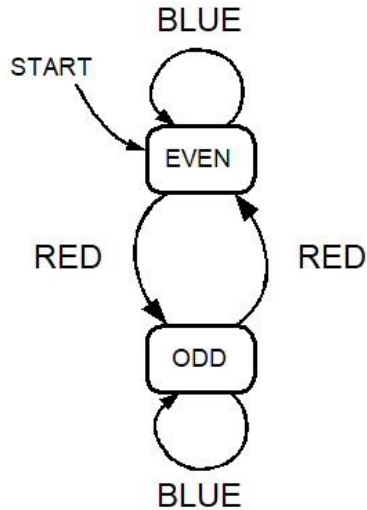
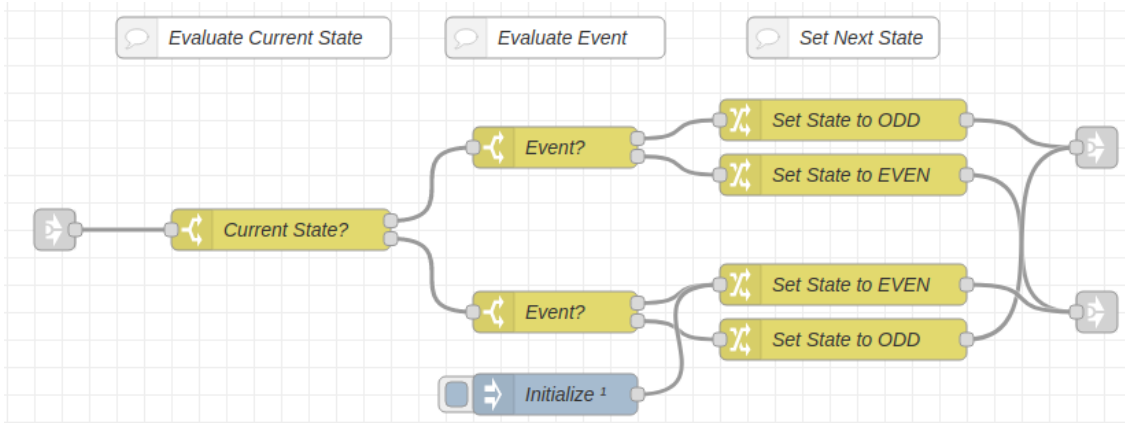

Figure 6-28: Finite State Machine Diagram for Bottle Counter
Figure 6-30: Bottle Counter - Finite State Machine
If you were to draw Figure 6-28 out in chalk on the sidewalk you could be the key element in the finite state machine, namely the keeper of the state. Start out by jumping on to the block labeled EVEN because when the production line starts moving no bottles have been detected and zero is, after all, an even number. Suppose someone standing by the production line yells “Red” or “Blue” each time a bottle goes by? If you hear “Red” you look down at your feet and jump to where the red arrow points. If they yell blue, you just jump up in the air because the arrow points to the same state bubble you are standing on. When someone asks you whether the current count is even or odd all you need to do is look down at your feet and report the name of the state you are standing in. Simple enough?
- A finite state machine flow to implement Figure 6-28.
Look back at Figure 6-28. Notice that whenever a blue bottle goes by the state of does not change. And in Figure 6-30 two of the nodes that set up the next state based on the event being “BLUE” are redundant because they simply set the new state to the save value as the old state. Therefore, these nodes can be removed from the finite state machine flow as shown below. Note: it is necessary to move